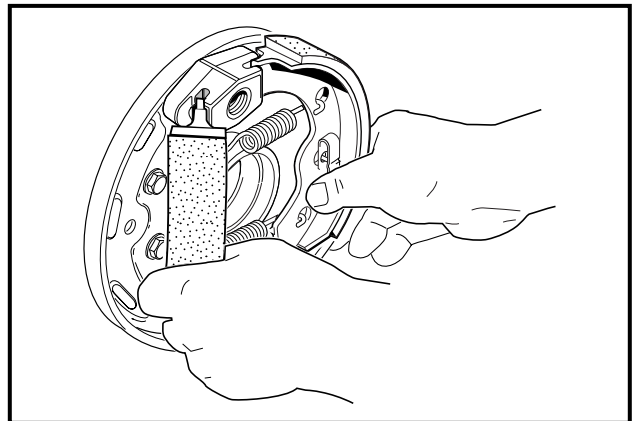

Figure 6-5 Remove Shoes
8. Grasp both brake shoes and pull them, with the springs, out of brake assembly (**Figure 6-5, Page 6-3**).